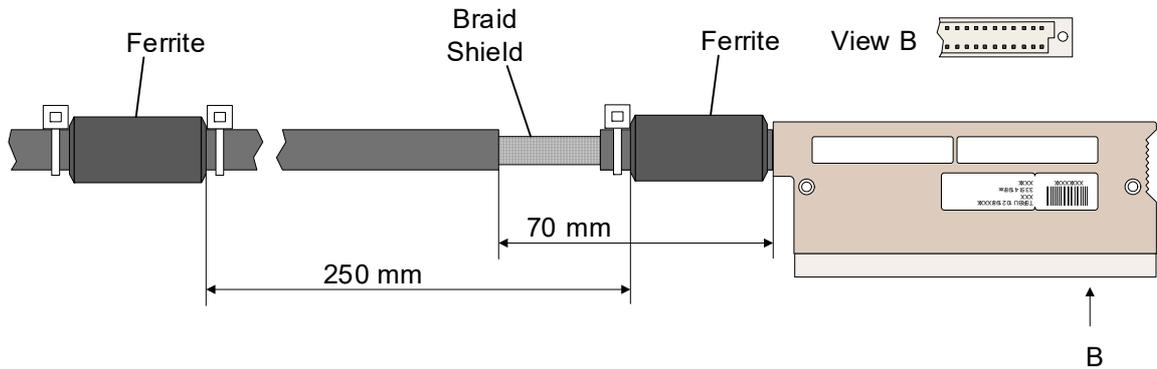

Figure 33: Cable with a two-ferrites EMC filter (sample)
- two-ferrites EMC filter (refer to Figure 33).